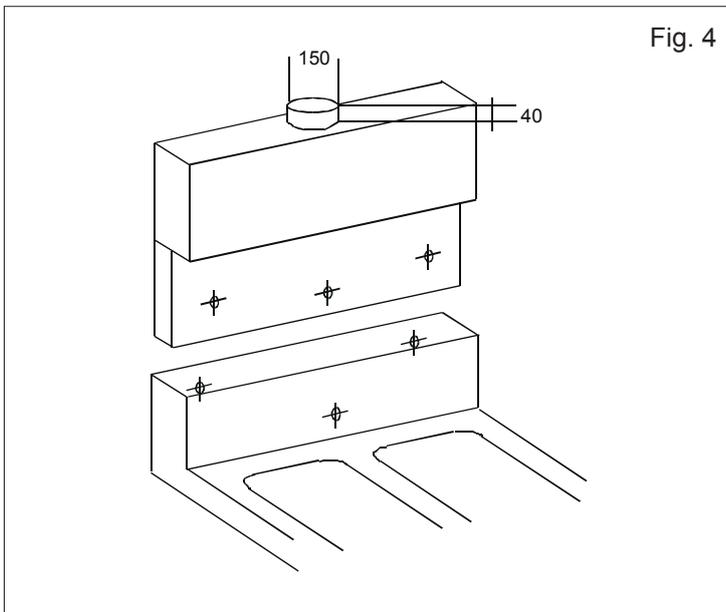

Fig. 4
- To fit the flue, proceed as follows (Fig. 4)